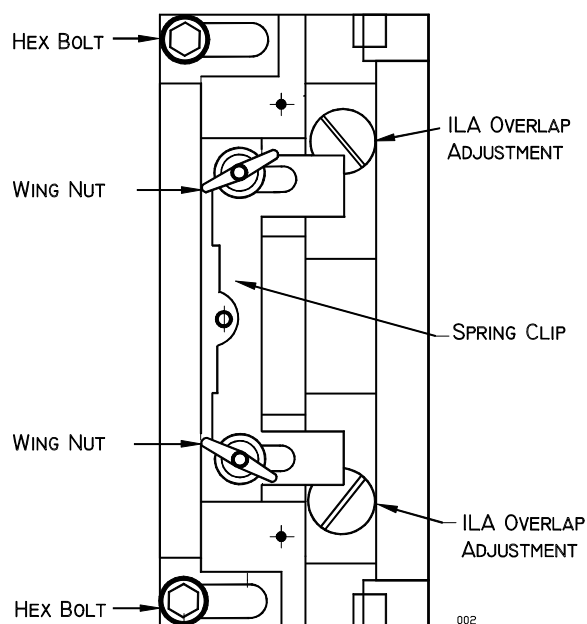

Figure 3-12. ILA® Assembly top view. The overlap screws shown are visible after the ILA® assembly is removed.
10. Loosen the 2 hex bolts (shown in Figure 3-12) on the **ILA®** assembly in front of the Relay Lens.
8. Loosen the 2 hex bolts (shown in Figure 3-12) on the **ILA®** assembly in front of the Relay Lens.
2. Loosen the 2 wing nuts at the top of the **ILA®** assembly to be adjusted (Figure 3-12).
4. If the overlap is at the top or bottom, be sure the projector is level, then slide the spring clip (Figure 3-12) at the top of the ILA® assembly backward and remove the ILA® assembly (it will slide out with some resistance). Observe there are two adjustment screws at the bottom of the ILA® assembly which allow for up and down movement. Turn these screws in or out very slightly to allow the ILA® to seat lower or higher, whichever is needed.